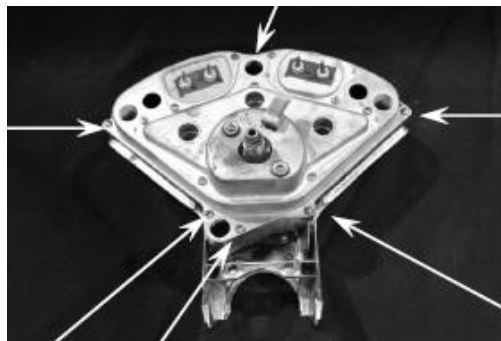

Figure 3
- 3) Remove the six screws that hold the instrument cluster in the bezel. The screws are located around the perimeter of the bezel. (figure 3)